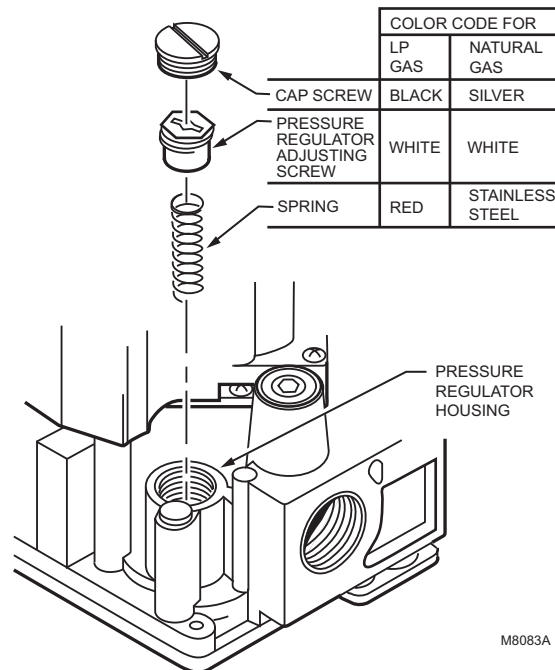

Fig. 10. Installation of conversion kit in regulated gas control.
4. Insert the replacement spring with the tapered end down. See Fig. 10.